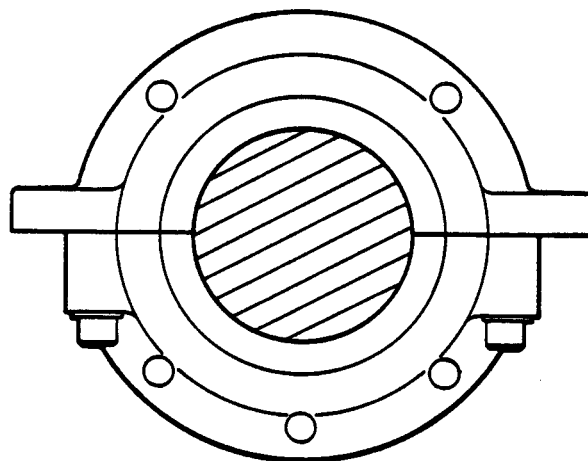

FIGURE 56 RETAINER INSTALLED ON SHAFT
9. Install and tighten the socket screws. This will push the packings into the correct contact with the packing grooves and the correct diameter for installing in the crankshaft. See Figure 56.
NOTE: On later engines the oil retainer is made without a lip. An extra hole is drilled at the bottom of the retainer as shown in Figure 56.